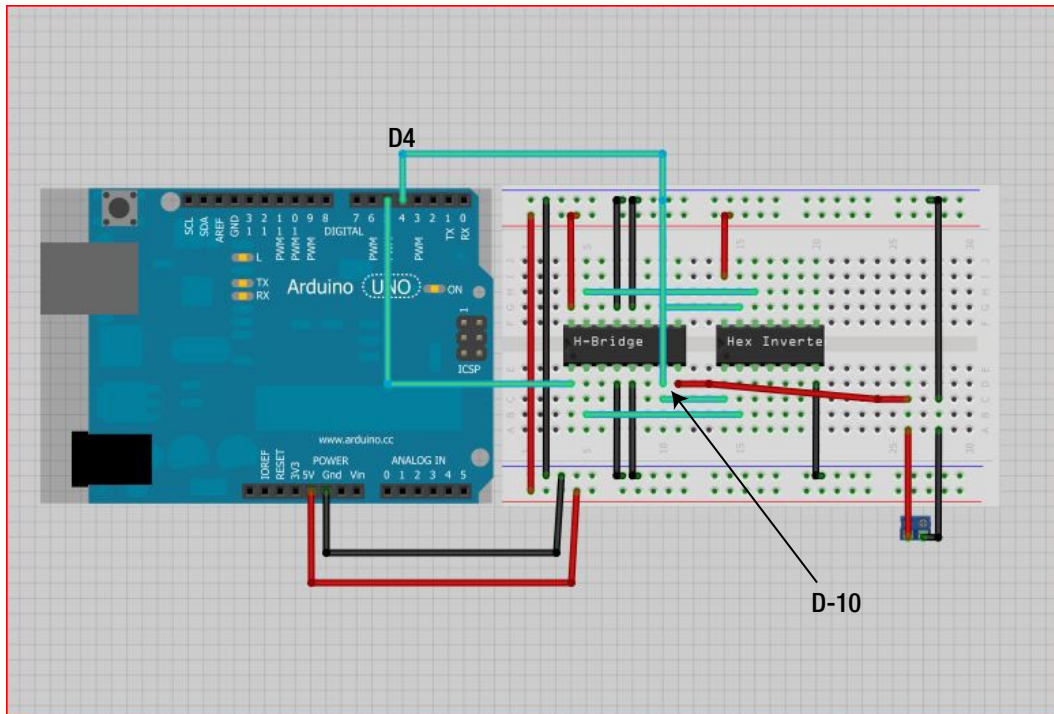

Figure 31-14. Connect digital pin 4 to D-10
14. Connect digital pin 4 on the Arduino to D-10 of the breadboard. Figure 31-14 illustrates this process.